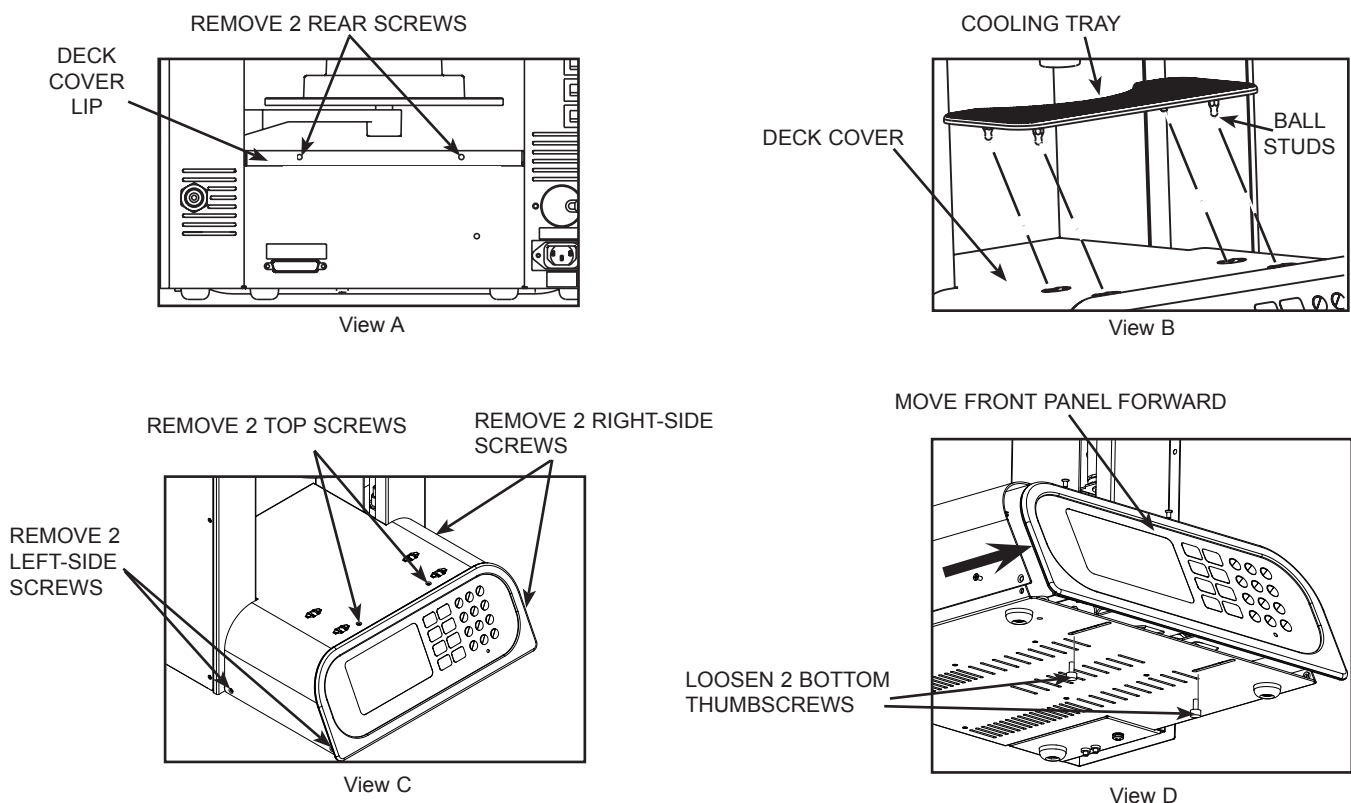

Figure 10. VIP Furnace Deck Cover Removal
4. Remove the top 2 screws securing the Deck Cover to the rear of the unit as shown by Figure 10, View A
5. Remove the cooling tray by lifting it from the Deck Cover as shown by Figure 10, View B
6. As shown by Figure 10, View C
7. Carefully lean the VIP Furnace back slightly to access the 2 thumbscrews located at the bottom of the chassis. Loosen both thumbscrews shown by Figure 10, View D.
2. As shown by Figure 10, View A, install 2 screws hand tightened into the top 2 screw holes of the rear Deck Cover lip installed over the rear panel.
4. As shown by Figure 10, View C
6. Carefully lean the VIP Furnace back slightly to access the 2 thumbscrews located at the bottom of the furnace chassis. Tighten both thumbscrews shown by Figure 10, View D.
7. Return the VIP Furnace flat onto the work table and install the cooling tray on the Deck Cover by snapping the four ball studs into the corresponding clips as shown by Figure 10, View B.